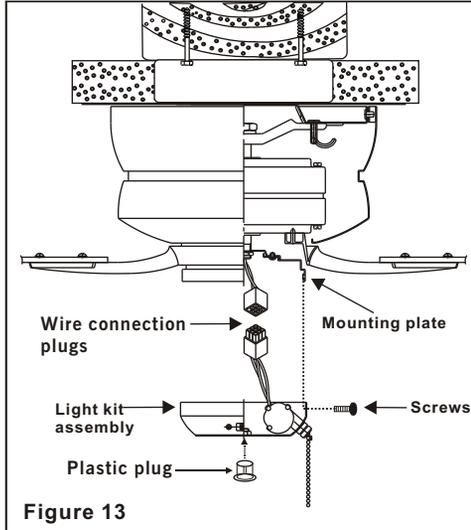

Figure 13
2. Attach the plastic plug to the switch housing. (Fig. 13)
4. Install the switch housing to the mounting plate with screws provided. (Fig. 13)